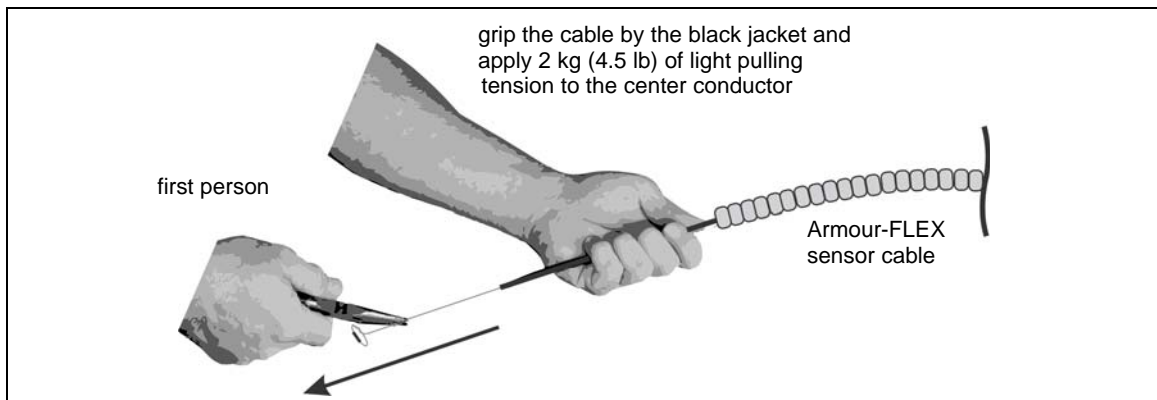

Figure 43: Conditioning Armour-FLEX cable (part 1)
5. At one end of the sensor cable, the first person firmly holds the sensor cable by the black jacket with one hand, while using the other hand to grip the center conductor with a pair of pliers (see Figure 43:).